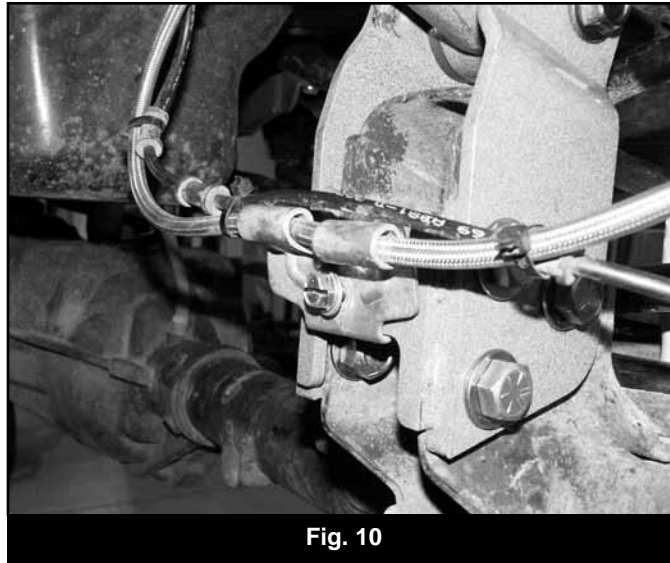

Fig. 10
33. Attach the brake line to the hole in the upper control arm relocation bracket with a 5/16" x 1-1/4" self-tapping bolt. Torque to 15 ft-lbs. (Fig. 10)